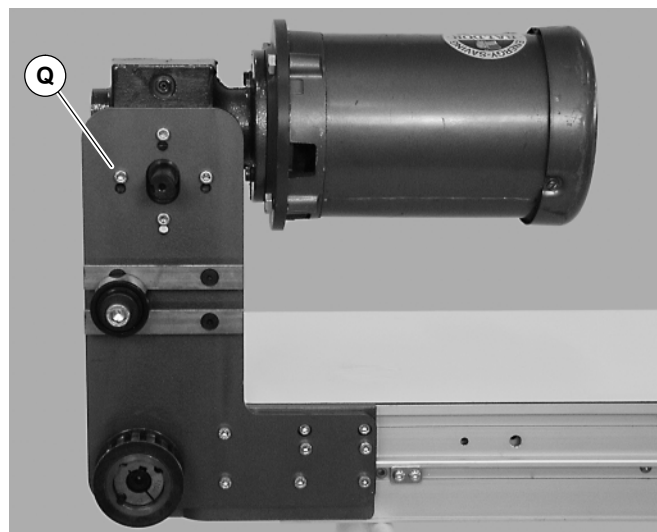

Figure 14
4. Remove four (4) gear reducer mounting screws (Q of Figure 14). Remove gearmotor.
11. Install gearmotor to mounting bracket and tighten screws (Q of Figure 14) to 12 Nm.